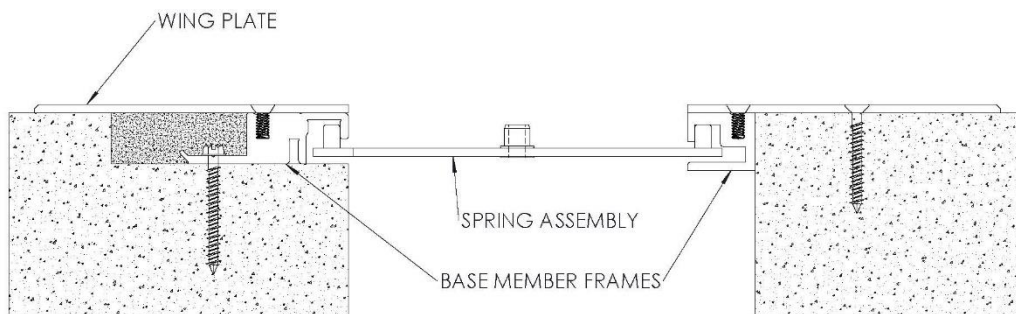

FIGURE 5
5. Lay cover plate over the left base frame with ends flush and mark the cover plate center holes onto the base frame near the inside edge. Repeat this on the right side. Position the spring assembly in the spring track on the base frames. This is done by sliding the spring assemblies in from the ends of the frames and aligning them with the marked locations. The spring assemblies will be diagonal to the opening. Tape may be needed to hold the spring assembly in place. *Note: In the 2" size the spring assembly is shaped differently than what is shown in Figure 5, see shop drawing for clarification.* **See Figure 5**